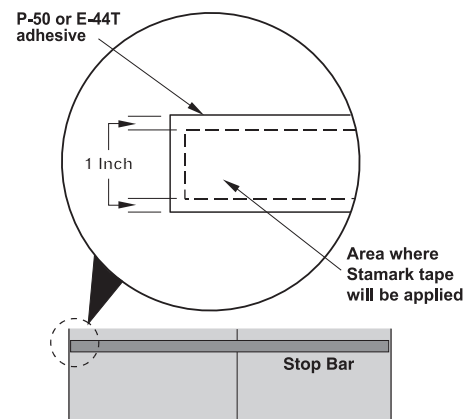

Figure 15.
- b. If using P-50 or E-44T for an intersection or and transverse making - including legends and symbols - evenly apply one coat of adhesive to the road surface using a solvent-resistant roller with a minimum 3/8-inch (2.0 cm) nap. The coating on the pavement must extend at least 1 inch (2.5 cm) beyond the premarked area. (See Figure 15.)